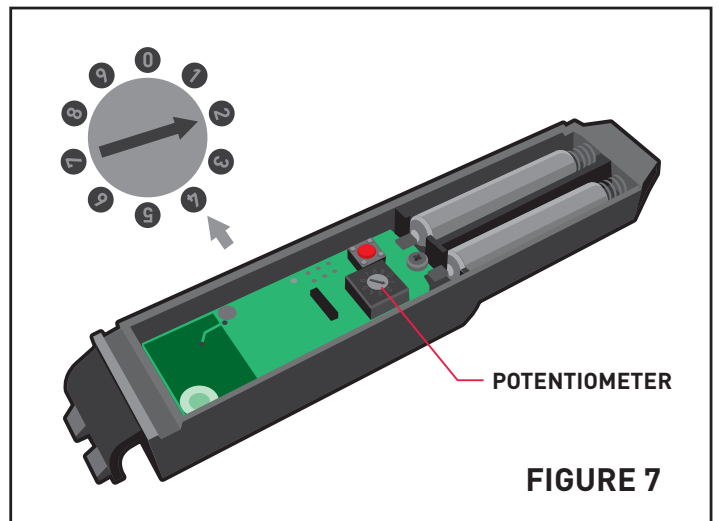

FIGURE 7
**NOTE:** The detection of windy conditions corresponds to sensing the movement up and down of the front bar and the lateral arms of the awning. The reaction of the sensor to this movement depends on the sensitivity threshold set on the potentiometer (see Fig 7). The potentiometer can be set from 1 to 9 using a small flat screwdriver. With 1 being equal to a high sensitivity which means light winds will cause the awning to close, and 9 being equal to low sensitivity which means only strong winds will cause the awning to close.